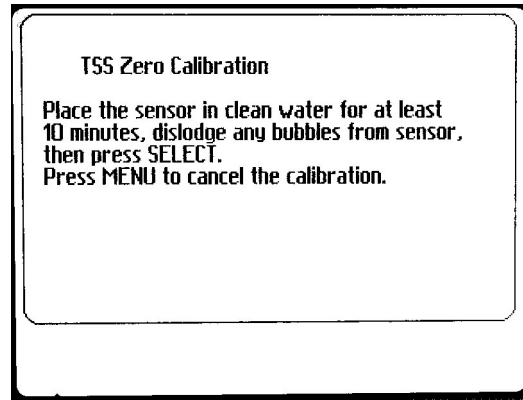

Figure 31 - TSS Zero Calibration
4. From the TSS ZERO CALIBRATION screen (Figure 31), press SELECT again to cause the zero point calibration to be stored. The PT2 will return to the previous CHANNEL CALIBRATION – TSS menu screen.